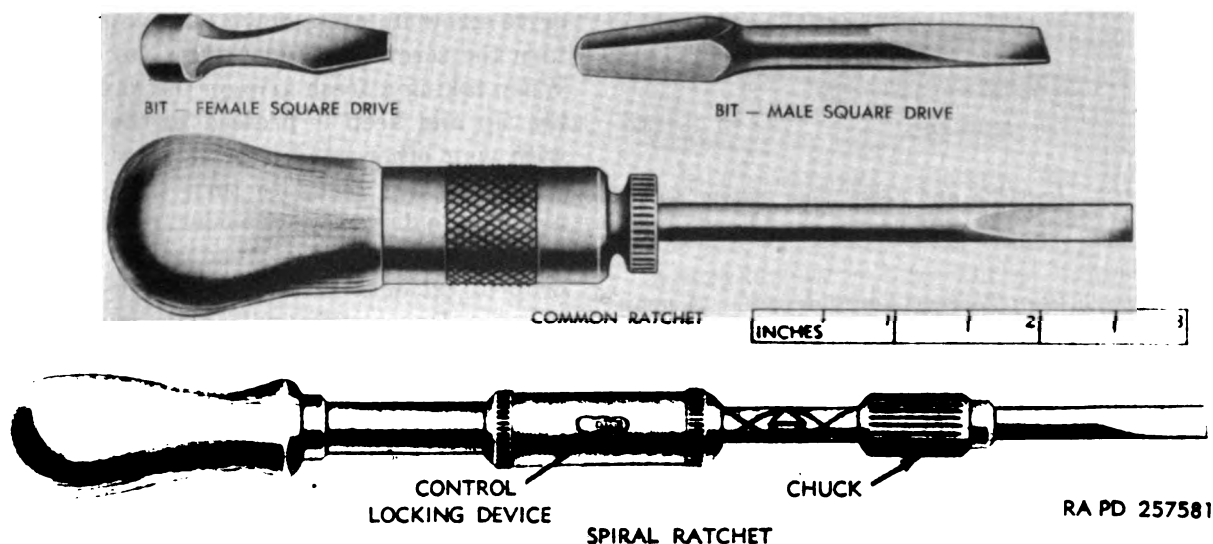

Figure 111. Ratchet screwdrivers and screwdriver bits.
f. Ratchet Screwdrivers. Ratchet screw drivers (fig. 111) are used to drive or remove small screws rapidly. The spiral ratchet screwdriver automatically drives or removes screws.
g. Screwdriver Bits. A screwdriver bit (fig. 111) is a screwdriver blade with a square, hex, or notched shank so that it will fit in the chuck of a breast drill or ratchet bit brace, or on a square drive tool, such as a socket wrench handle. Other screwdriver bits are made with a spiral ratchet screwdriver shank for use with spiral ratchets.